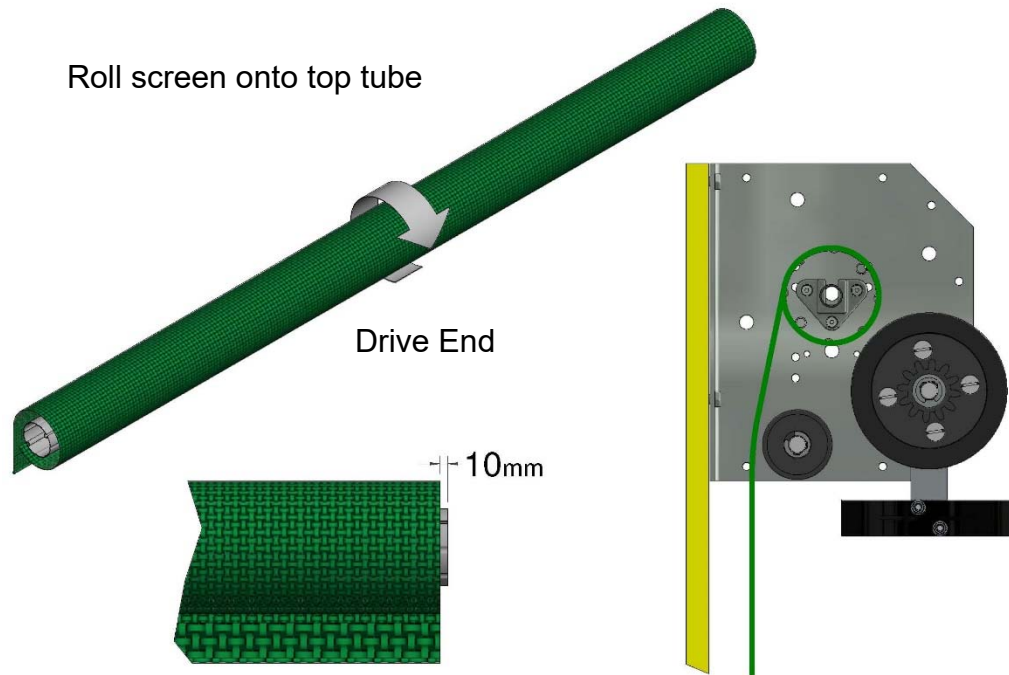

Figure 6a, Fabric Attached to Top Tube and Rolled Up
5. Roll the windbars and fabric panels onto the top tube. It is important that when the door is hung the fabric should come off the back of the top tube, between the tube and the building face (Figure 6a).